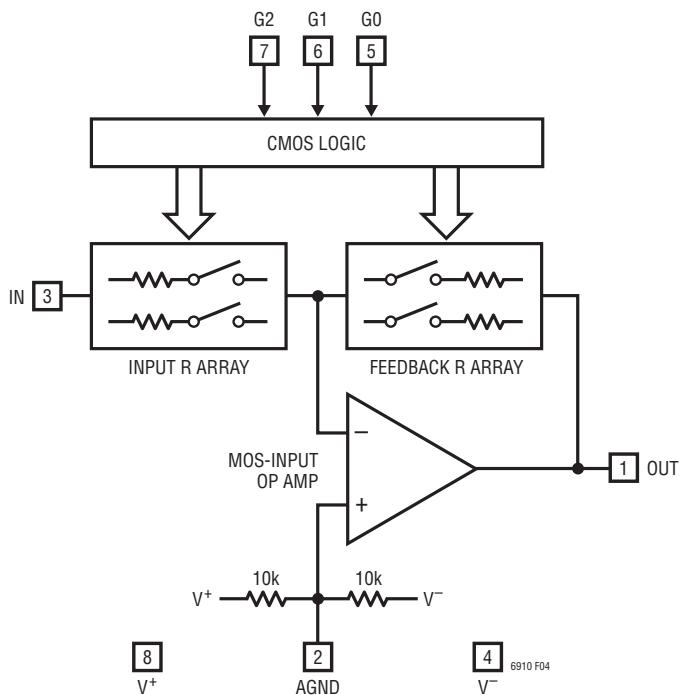
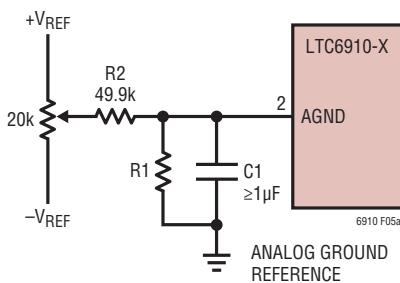

Figure 4. Block Diagram
Figure 5a. Offset Nulling
**AGND (Pin 2):** Analog Ground. The AGND pin is at the midpoint of an internal resistive voltage divider, developing a potential halfway between the  $V^+$  and  $V^-$  pins, with an equivalent series resistance to the pin of nominally 5k $\Omega$  (Figure 4). AGND is also the noninverting input of the internal op amp, which makes it the ground reference voltage for the IN and OUT pins. Because of this, very “clean” grounding is important, including an analog ground plane surrounding the package.
**IN (Pin 3): Analog Input.** The input signal to the amplifier in the LTC6910-X is the voltage difference between the IN and AGND pins. The IN pin connects internally to a digitally controlled resistance whose other end is a current summing point at the same potential as the AGND pin (Figure 4). At unity gain (digital input 001), the value of this input resistance is approximately 10k $\Omega$  and the IN voltage range is rail-to-rail (V+ to V-). At gain settings above unity (digital input 010 or higher), the input resistance falls. Also, the linear input voltage range falls in inverse proportion to gain. (The higher gains are designed to boost lower level signals with good noise performance.) Tables 1, 2, and 3 summarize this behavior. In the “zero” gain state (digital input 000), analog switches disconnect the IN pin internally and this pin presents a very high
The LTC6910 family are small outline, wideband inverting DC amplifiers whose voltage gain is digitally programmable. Each delivers a choice of eight voltage gains, controlled by the 3-bit digital inputs to the G pins, which accept CMOS logic levels. The gain code is always monotonic; an increase in the 3-bit binary number (G2 G1 G0) causes an increase in the gain. Table 1, Table 2 and Table 3 list the nominal voltage gains for LTC6910-1, LTC6910-2 and LTC6910-3 respectively. Gain control within each amplifier occurs by switching resistors from a matched array in or out of a closed-loop op amp circuit using MOS analog switches (Figure 4). Bandwidth depends on gain setting. Curves in the Typical Performance Characteristics section show measured frequency responses.
Settling time in the CMOS gain-control logic is typically several nanoseconds and faster than the analog signal path. When amplifier gain changes, the limiting timing is analog, not digital, because the effects of digital input changes are observed only through the analog output (Figure 4). The LTC6910-X’s logic is static (not latched) and therefore lacks bus timing requirements. However, as with any programmable-gain amplifier, each gain change causes an output transient as the amplifier’s output
The electrical tables list DC offset (error) voltage at the inputs of the internal op-amp in Figure 4,  $V_{OS(OA)}$ , which is the source of DC offsets in the LTC6910-X. The tables also show the resulting, gain dependent offset voltage referred to the IN pin,  $V_{OS(IN)}$ . These two measures are related through the feedback/input resistor ratio, which equals the nominal gain-magnitude setting, G:
Offset voltages at any gain setting can be inferred from this relationship. For example, an internal offset  $V_{OS(OA)}$  of 1mV will appear referred to the IN pin as 2mV at a gain setting G of 1, or 1.5mV at a gain setting of 2. At high gains,  $V_{OS(IN)}$  approaches  $V_{OS(OA)}$ . (Offset voltage can be of either polarity; it is a statistical parameter centered on zero.) The MOS input circuitry of the internal op amp in Figure 4 draws negligible input currents (unlike some op amps), so only  $V_{OS(OA)}$  and G affect the overall amplifier’s offset.
Because internal op amp offset voltage  $V_{OS(OA)}$  is gain independent as noted above, offset trimming can be readily added at the AGND pin, which drives the noninverting input of the internal op amp. Such a trim shifts the AGND voltage slightly from the system's analog ground reference, where AGND would otherwise connect directly. This is convenient when a low resistance analog ground potential or analog ground reference exists, for the return of a voltage divider as in Figure 5a. When adjusted for zero DC output voltage when the LTC6910-X has zero DC input voltage, this DC nulling will hold at other gain settings also.
Figure 5a shows the basic arrangement for dual-supply applications. A voltage divider (R1 and R2) scales external reference voltages  $+V_{REF}$  and  $-V_{REF}$  to a range equaling or slightly exceeding the approximately  $\pm 10\text{mV}$  op amp offset-voltage range. Resistor R1 is chosen to drop the  $\pm 10\text{mV}$  maximum trim voltage when the potentiometer is set to either end. Thus if  $V_{REF}$  is 5V, R1 should be about  $100\Omega$ . Note also that the two internal 10k resistors in Figure 4 tend to bias AGND toward the mid-point of  $V^+$  and  $V^-$ . The external voltage divider will swamp this effect if R1 is much less than  $5\text{k}\Omega$ . When considering the effect of the internal 10k resistors, note that they form a Thévenin equivalent of 5k in series with an open-circuit voltage at the halfway potential  $(V^+ + V^-)/2$ . (Although
With this trim technique in place, the remaining DC offset sources are drifts with temperature (typically  $6\text{\mu V}/^\circ\text{C}$  referred to  $V_{OS(OA)}$ ), shifts in the LTC6910-X's supply voltage divided by the PSRR factors, supply voltage shifts coupling through the two 10k internal resistors of Figure 4, and of course any shifts in the reference voltages that supply  $+V_{REF}$  and  $-V_{REF}$  in Figure 5a.
At a gain setting of 10V/V in an LTC6910-1 (digital input 100) and a 250ksps sampling rate in the LTC1864, a 10kHz input signal at 60% of full scale shows a THD of  $-87$ dB at the digital output of the ADC. 100kHz input signals under the same conditions produce THD values around  $-75$ dB. Noise effects (both random and quantization) in the ADC are divided by the gain of the amplifier when referred to  $V_{IN}$  in Figure 4. Because of this, the circuit can acquire a signal that is 40dB down from full scale of 5VP-P with an SNR of over 70dB. Such performance from an ADC alone ( $70 + 40 = 110$ dB of useful dynamic range at 250ksps), if available, would be far more expensive.